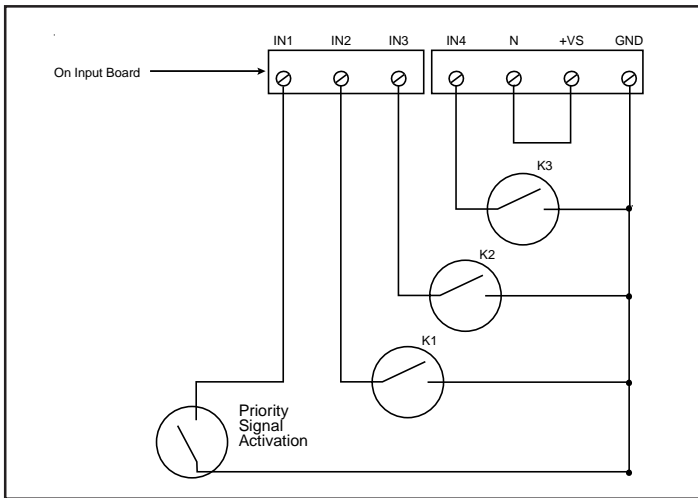
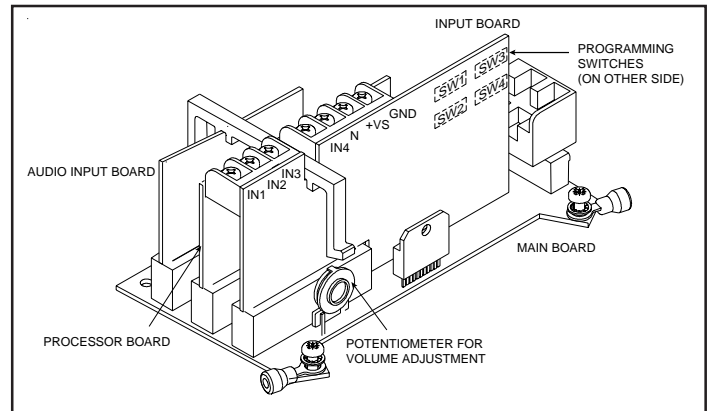

Figure 5. Installing with Multiple Dry Relay Contacts Internally Generated Tones Only
Figure 9. PC Board Locations
- Select the appropriate method for wiring to the input board (Figure 9) from Figures 5 - 10. Connect the Adaptatone as shown.
- Refer to Figures 9 and 11 and select desired tones. Set the miniature programming switches on the input board.
- Adjust volume level, if desired, by turning potentiometer located on the main board (Figure 9).